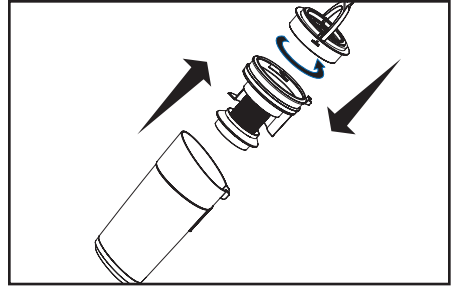

Fig. 1
1. Make sure the vacuum is off. Push the dust cup button release and remove the dust cup. Pull up on the blue handle to remove the filters. Rotate the top piece to remove the HEPA Media filter (Fig. 1).